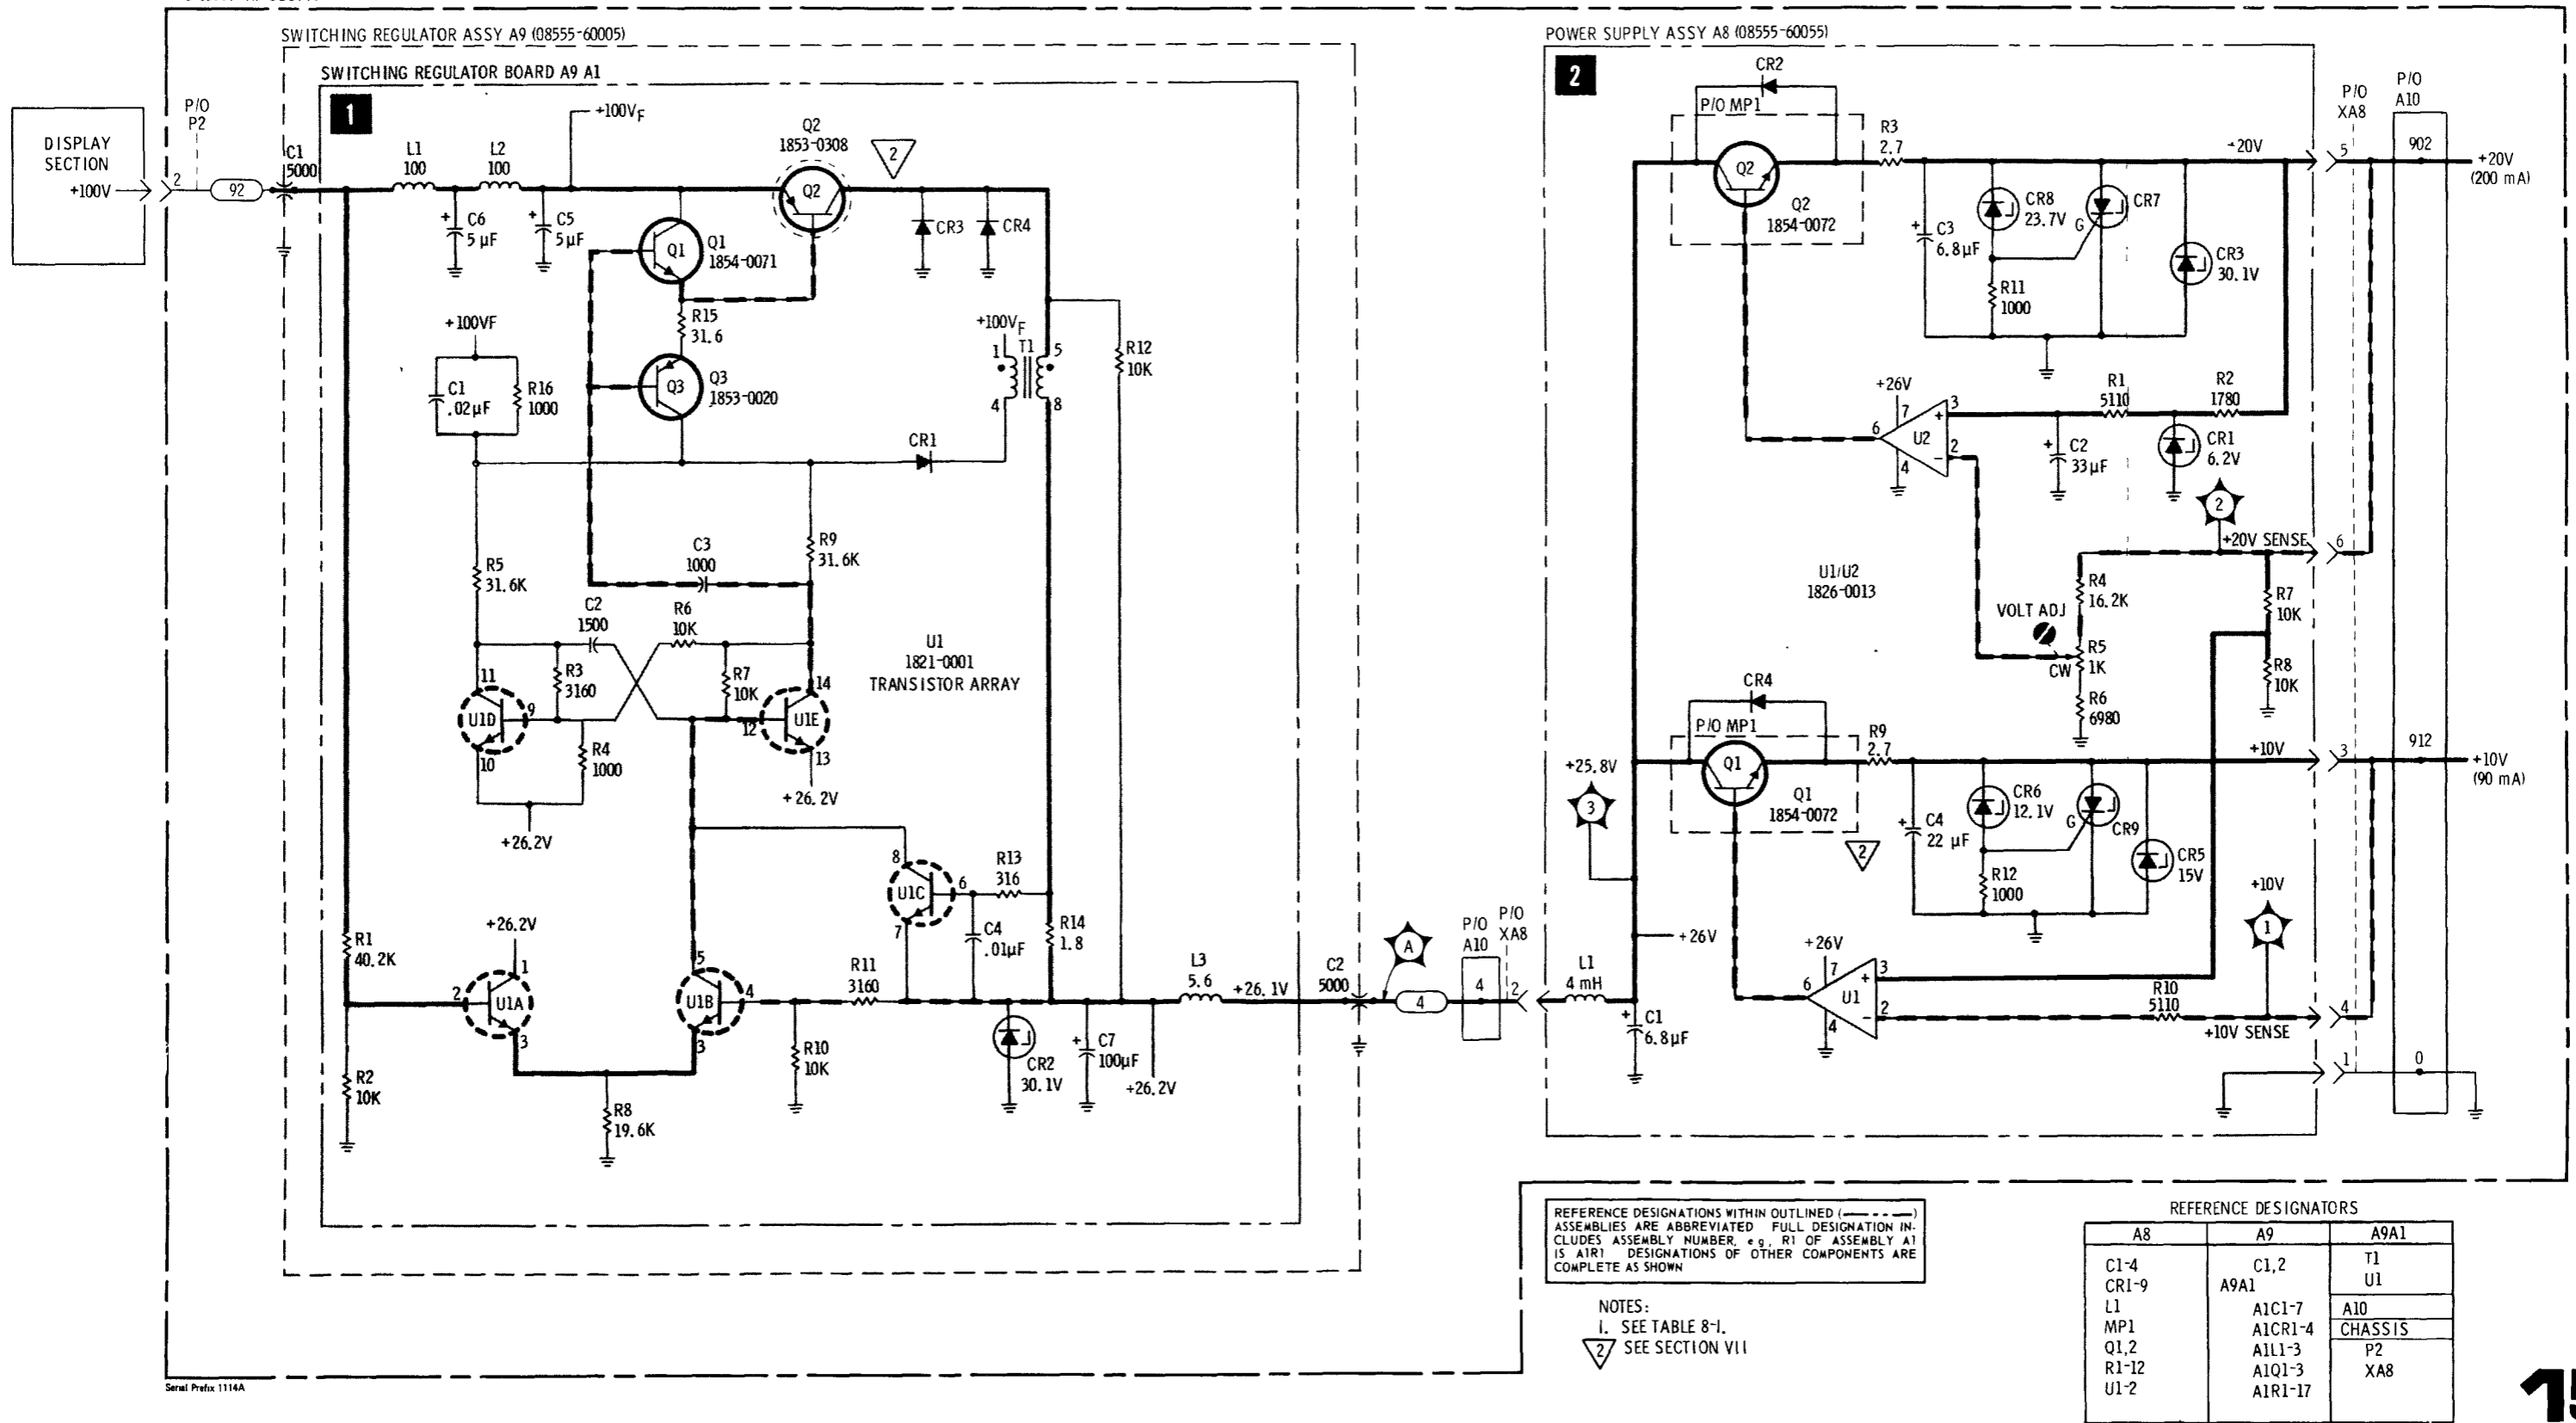

Figure 8-71. Switching Regulator and +10/+20 Volt Power Supply
Transistor A9A1Q2 (Figure 8-71) functions as the regulator switch. The transistor is switched "on" and "off" completely rather than functioning as a variable resistor series pass element. Operating in this manner the efficiency of the regulator approaches 100%. Transformer T1 functions both as an inductor and a transformer. Winding 5 and 8 act as an inductor (L) and capacitor C7 is the output capacitor (C). Winding 1 and 4 provides regenerative (positive) feedback to the bases of the switching transistors. This ensures rapid and complete switching action. Diodes CR3 and CR4 provide a path for current flowing in the inductor when the switching transistors are turned "off". Transistors U1D and U1E and their associated circuitry form an astable multivibrator that controls the switching transistors (U1 is an integrated circuit transistor array, consisting of five identical transistors). The multivibrator operates at a switching rate of about 100 kHz to provide positive and negative pulses to trigger the switching transistors. Negative pulses are coupled through C3 and CR1 to the transistor bases; while positive pulses are coupled through C3 and amplified by Q1.